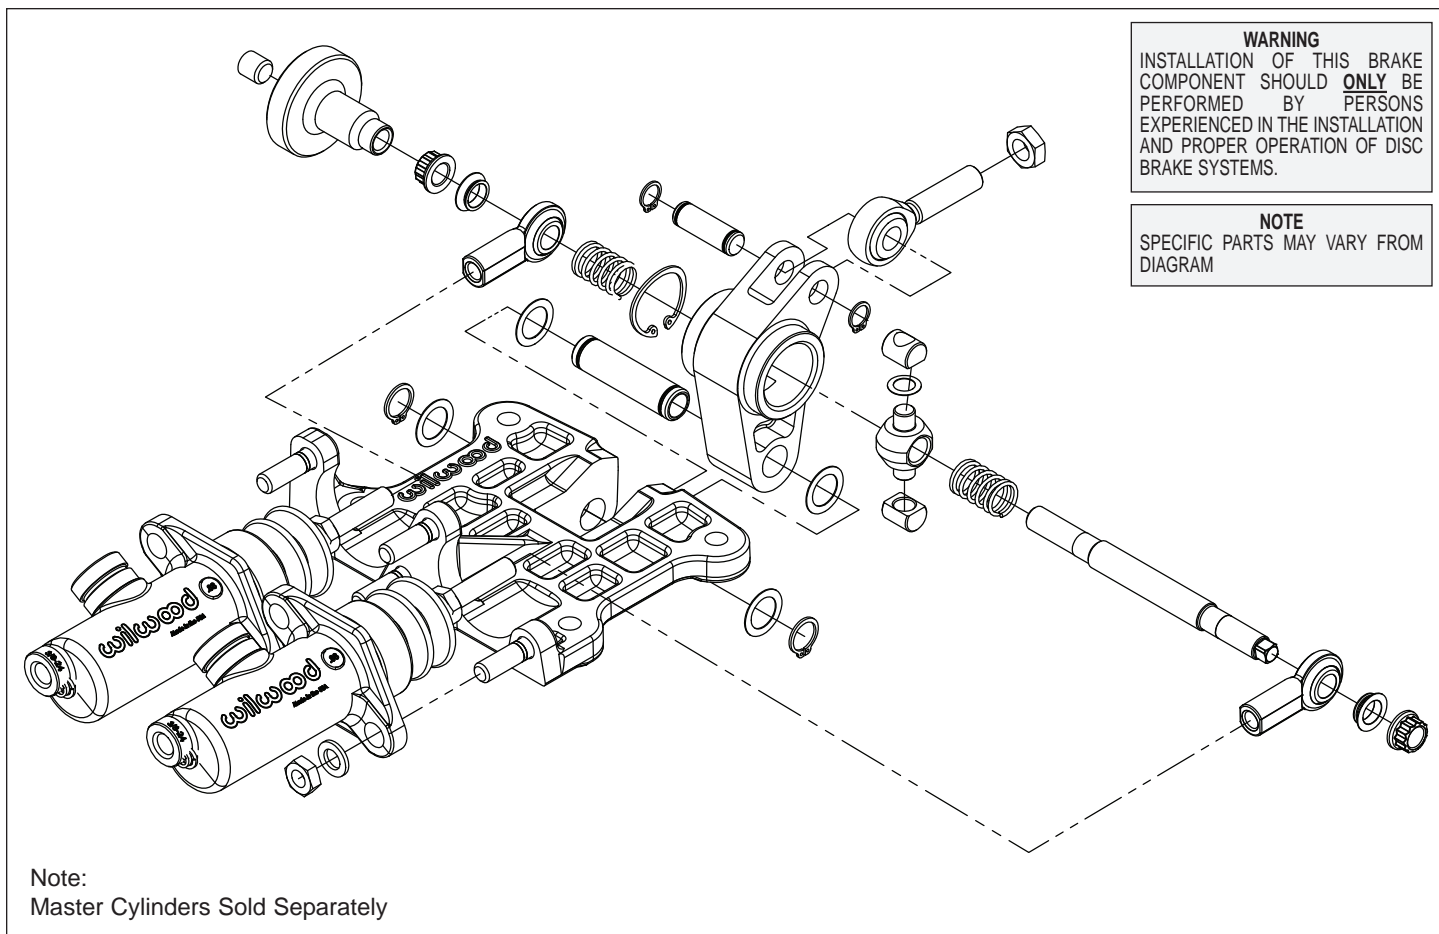

Figure 1. Typical Tru-Bar / Master Cylinder Setup
- Orient the master cylinder as shown in Figure 1 and thread the pushrod into the Tru-Bar rod end, until it bottoms out. Secure the master cylinder to the base using the nuts and washers supplied with the Tru-Bar mount. Snug the pushrod jam nut to temporarily secure its position. Repeat process for the second master cylinder. Final adjustment of the pushrod lengths will occur later in the installation process.